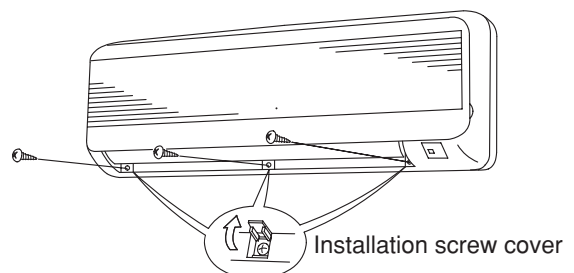

Fig. 3-54
(3) Adjust the flap so that it is horizontal. (Fig. 3-54)
(4) Open the installation screw covers below the grille (3 locations). (Fig. 3-54)
(5) Remove the screws. (Fig. 3-54)